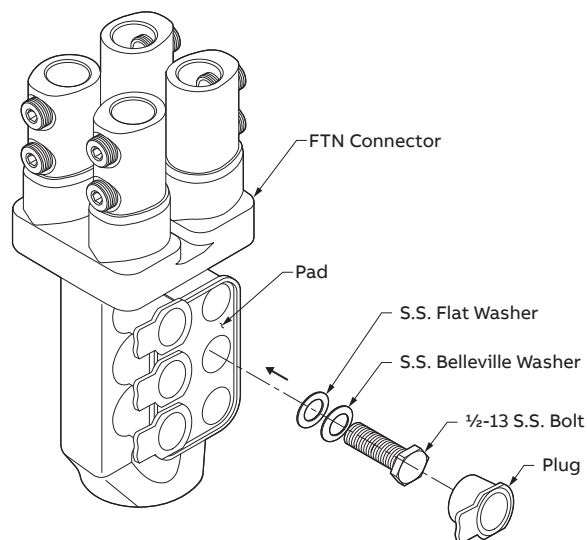

Figure 2
2. Install hardware (flat washer, belleville washer and bolt) into the six holes of the pad on the FTN connector. Ensure holes on transformer pad and FTN connector line-up (Figure 2).
3. Insert the plugs into the holes to seal the hardware (Figure 2).